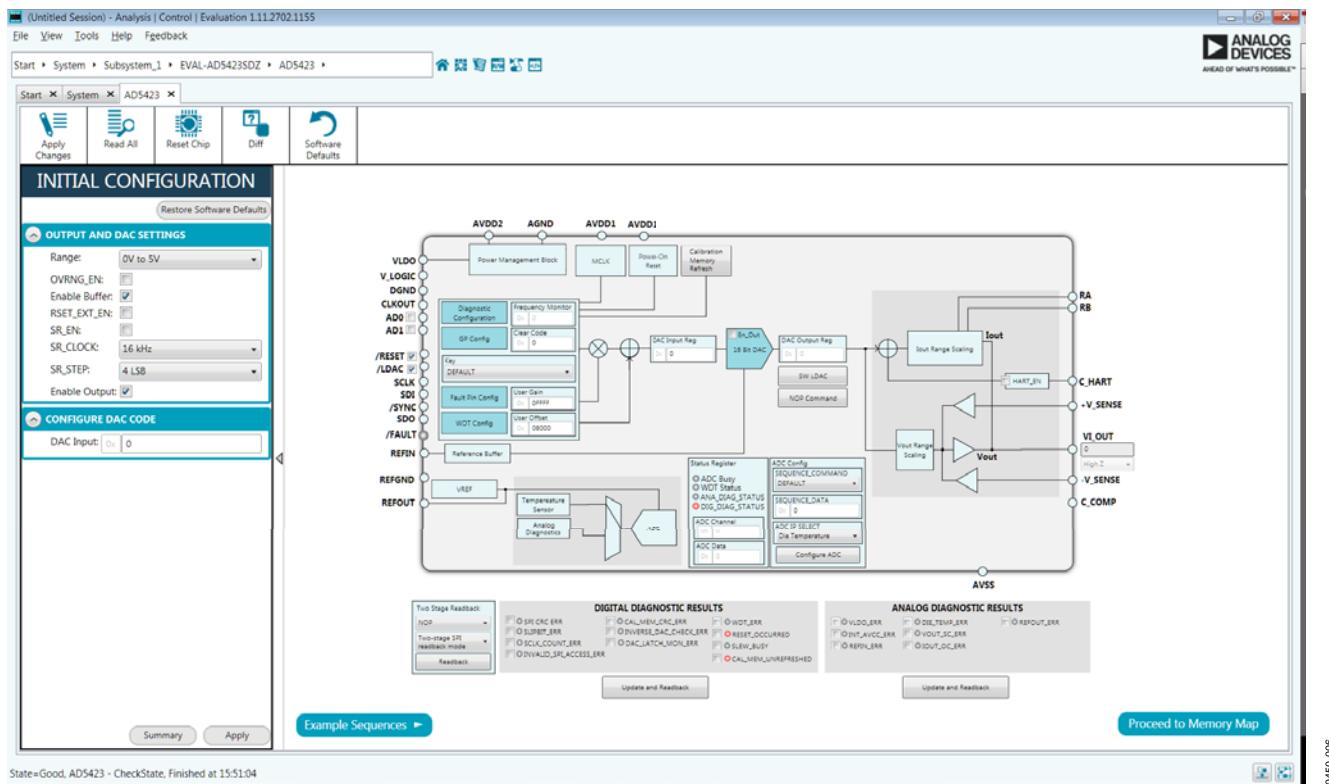

Figure 6. AD5423 Block Diagram in the ACE Software
8. Double-click EVAL-AD5423SDZ to open the AD5423 block diagram (see Figure 6). The INITIAL CONFIGURATION pane appears on the left side of the ACE window. Several register settings can be configured in this pane and are written to the device in the appropriate order. The RESET\_OCCURRED and CAL\_MEM\_UNREFRESHED LED indicators in the DIGITAL DGNOSTIC RESULTS pane are illuminated red by default.